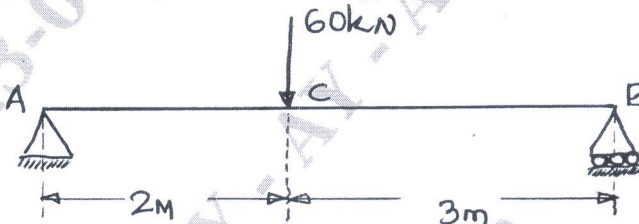

Fig.Q7(b)
b. A simply supported beam 'AB' of span 5m is as shown in Fig.Q7(b). Calculate the deflection under the point load by the strain energy method. Take $EI = 6 \times 10^3 \text{ kN-m}^2$.